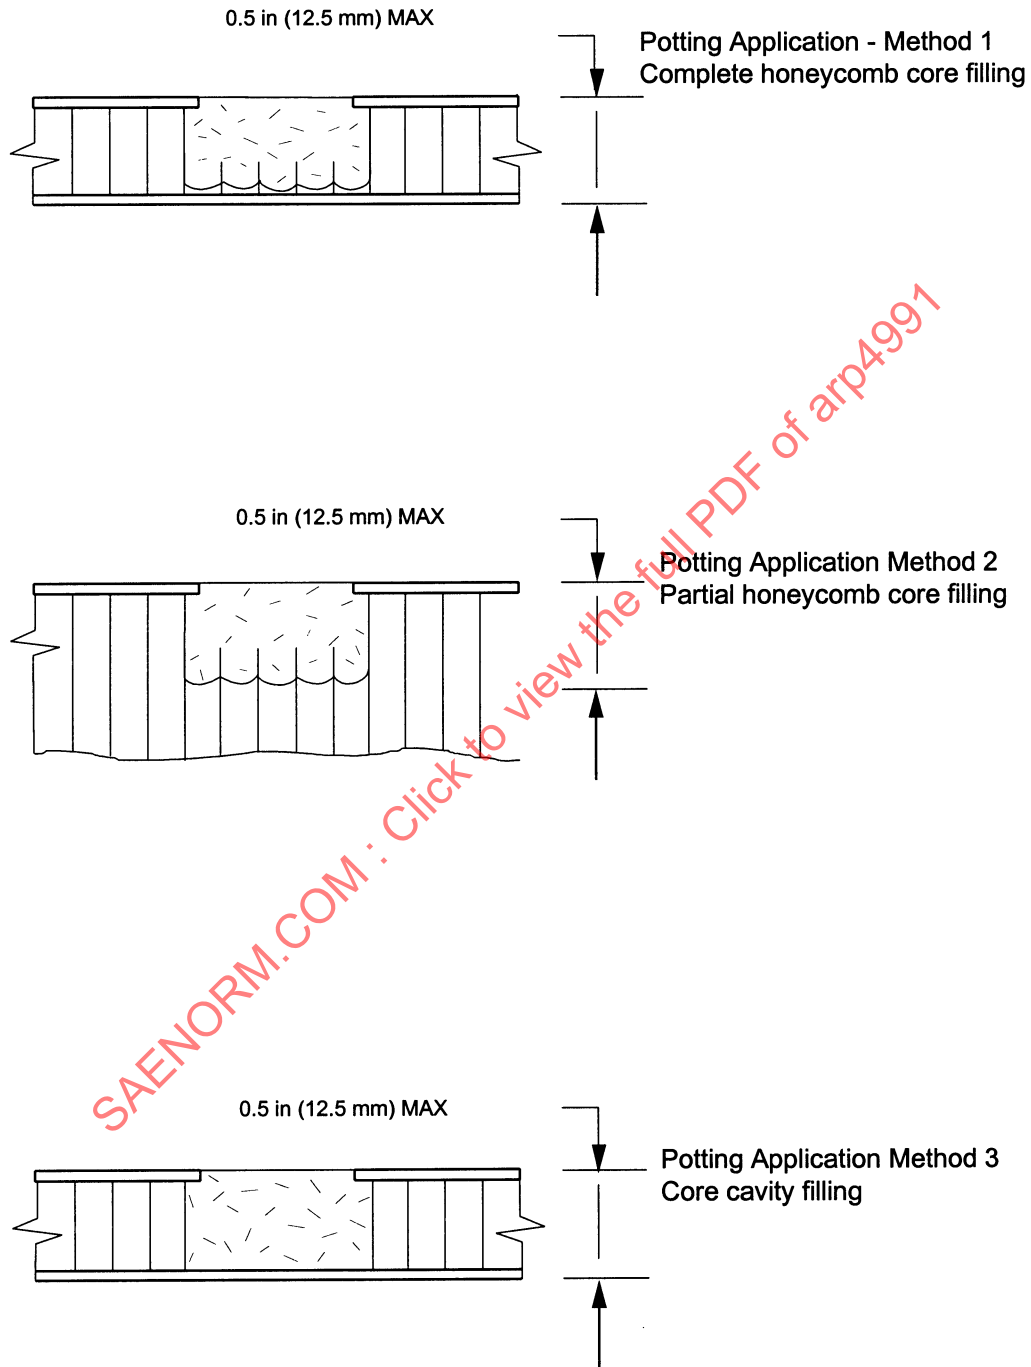

FIGURE 4 - Core Restoration With Potting - Method 2
5.2.4.2 Core Restoration With Potting - Method 2 - Full Damage Removal: Procedure (refer to Figure 4):